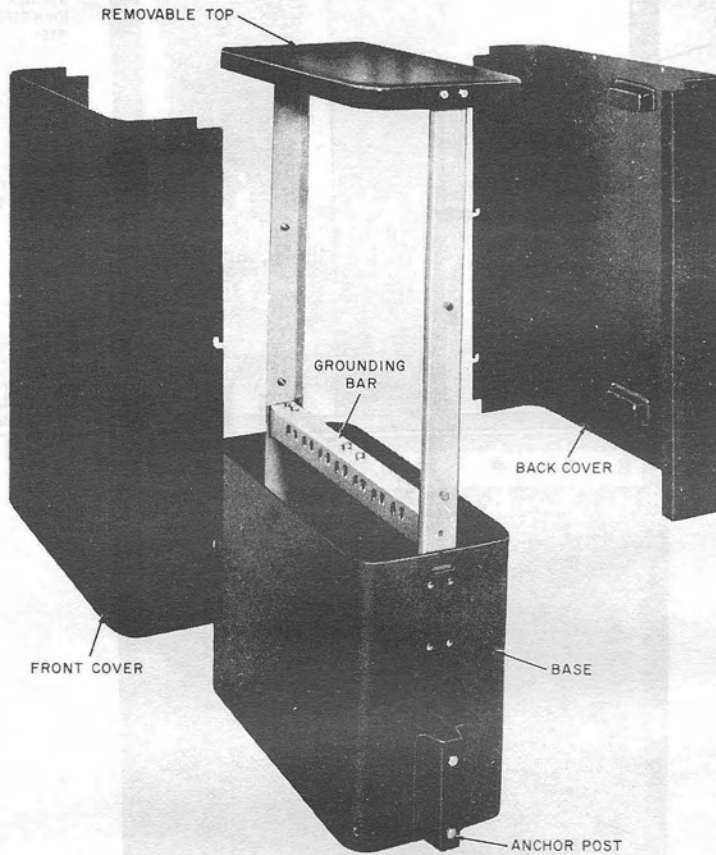

Fig. 34—Superseded UP-1200 Cable Closure
11.01 Fig. 34 illustrates the superseded UP-1200 Cable Closure.